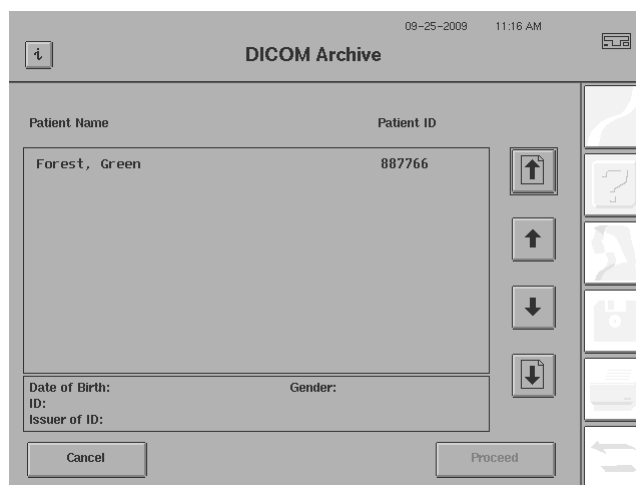

Figure 14.67 Patient List Browser Screen
- 4 Once you have entered the various limitations that you wish to use, select PROCEED. A message appears indicating “Waiting for response from server...” as the patient list is being retrieved from the DICOM Archive. A Patient List browser screen (Figure 14.67) will then display the complete list of patients that satisfied your search criteria. The list will always be sorted by patient name in ascending alphabetical order.